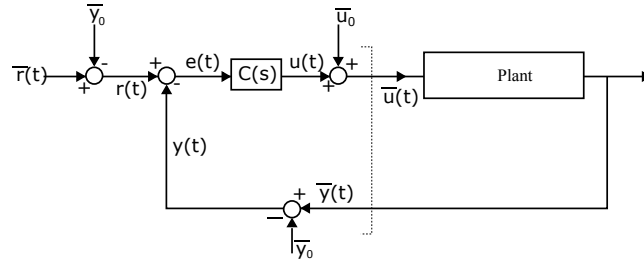

Figure 1: Control system: left of the dashed line is the “controller”.
Figure 1 shows the control architecture (discussed in class) for implementing the controller $C(s)$ to control this nonlinear plant
3. Perform a closed-loop simulation with the nonlinear plant and your controller. A *SIMULINK[®]* model of the plant is provided in *plant_ElectromagnetUpward.slx*. You have to add to it to make it look like Figure 1. The blocks inside the plant expects you to define the parameters m, α